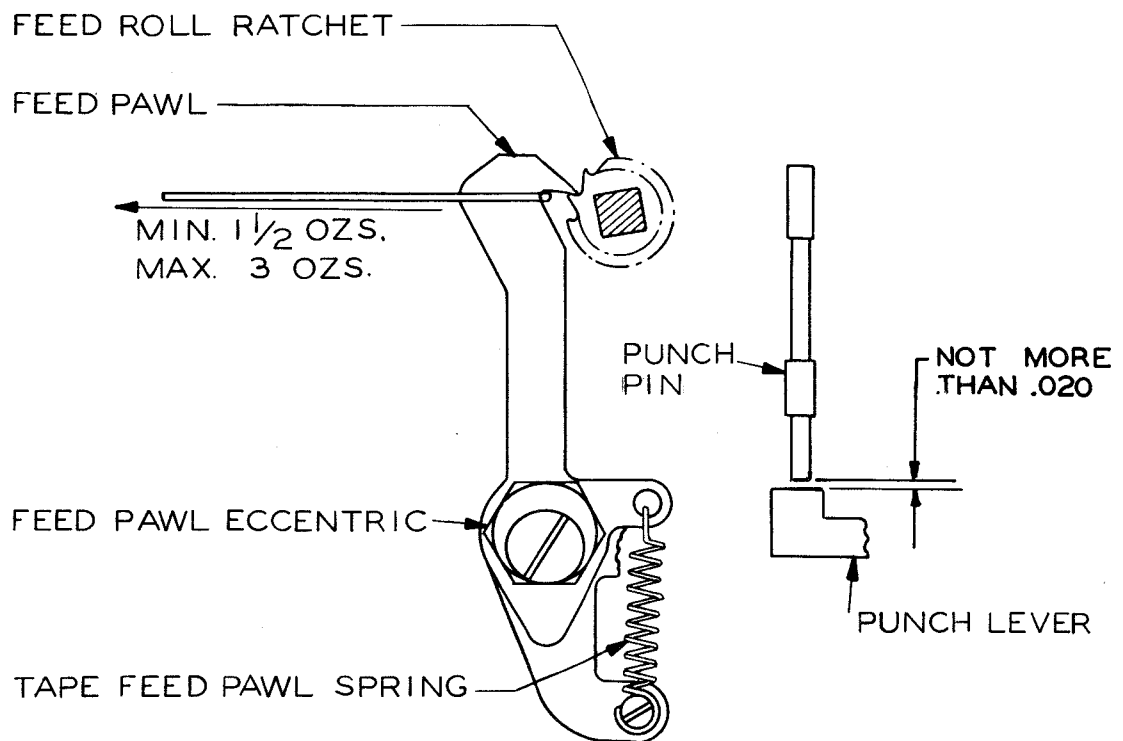

Figure 10
**2.23 The Feed Pawl should engage the next feed-roll ratchet tooth when the main shaft has been rotated until the selected punch levers clear the punch pins as indicated in Figure 10.**
**2.24 Feed-pawl Spring:** It should require a pull as indicated in Figure 10 to start the feed pawl moving.